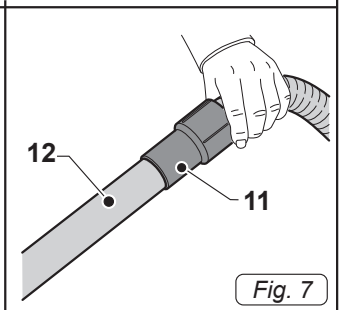

Fig. 7
- Connect the hose (11 Fig. 7) with the extension (12 Fig. 7).